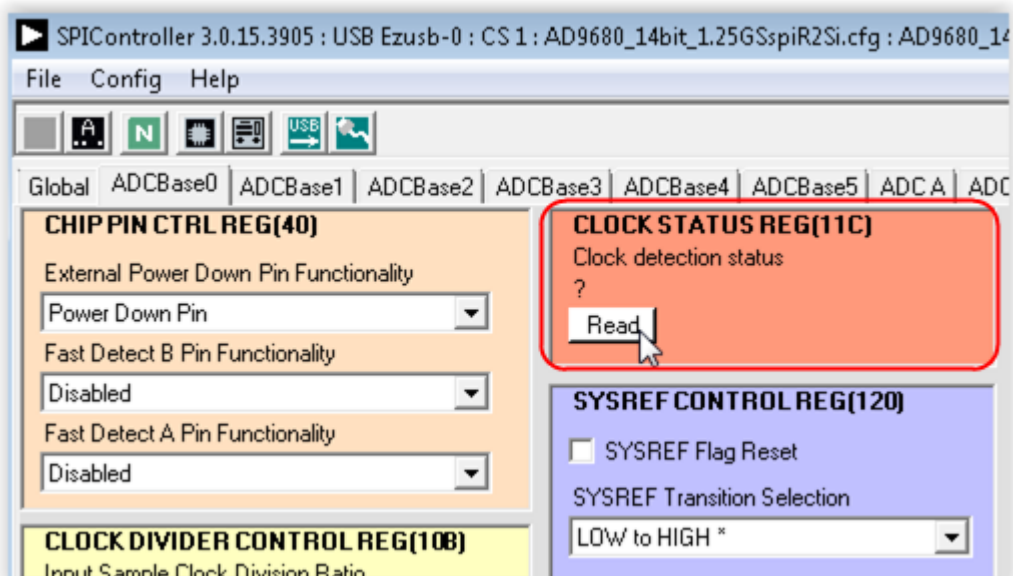

Figure 18. Clock
- Ensure that the clock to the ADC is supplied. Using SPIController **ADCBase0** tab the status of the clock can be read out. See figure 18.